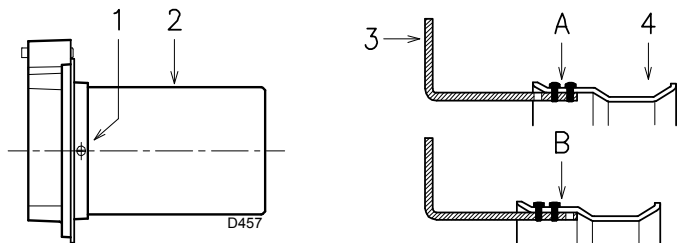

Fig. 13
- Loosen the screws 1)(Fig. 13) and disassemble the blast tube 2);
- Move the fixing point of the rod 3)(Fig. 13) from position **A** to position **B**, thereby drawing back the shutter 4);
- Reassemble the blast tube 2)(Fig. 13) and the screws 1)